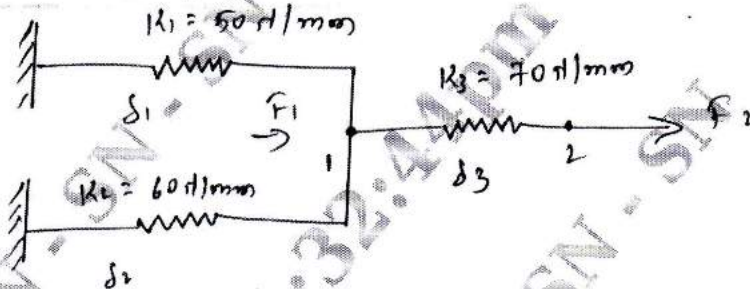

Fig. Q2 (a)
- For the spring system shown in Fig. Q2 (a), using the principle of minimum potential energy. Determine the nodal displacements. Take : $F_1 = 75$ N and $F_2 = 100$ N (10 Marks)